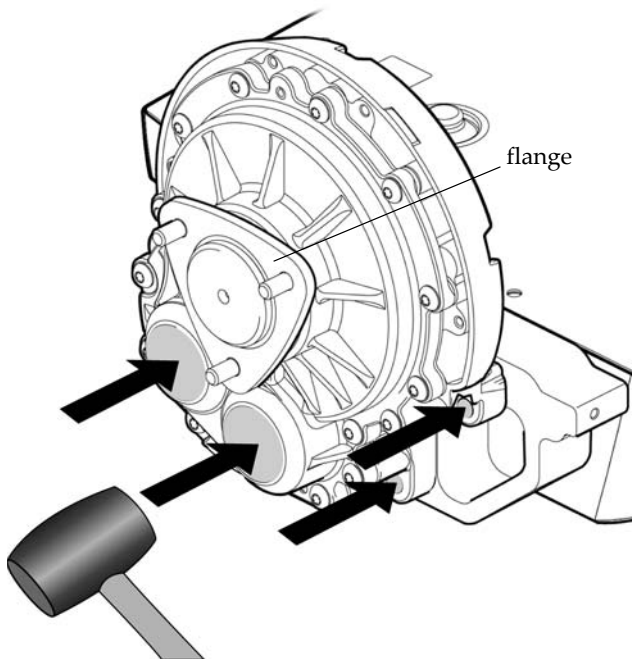

Figure 8-7: Tap Gearbox to Seat Against Chassis
9. Using rubber mallet, *gently tap* gearbox outer cover at locations indicated by arrows in Figure 8-7 to seat gearbox against chassis until mating surfaces are flush. Alternate strike points from side to side for even seat.